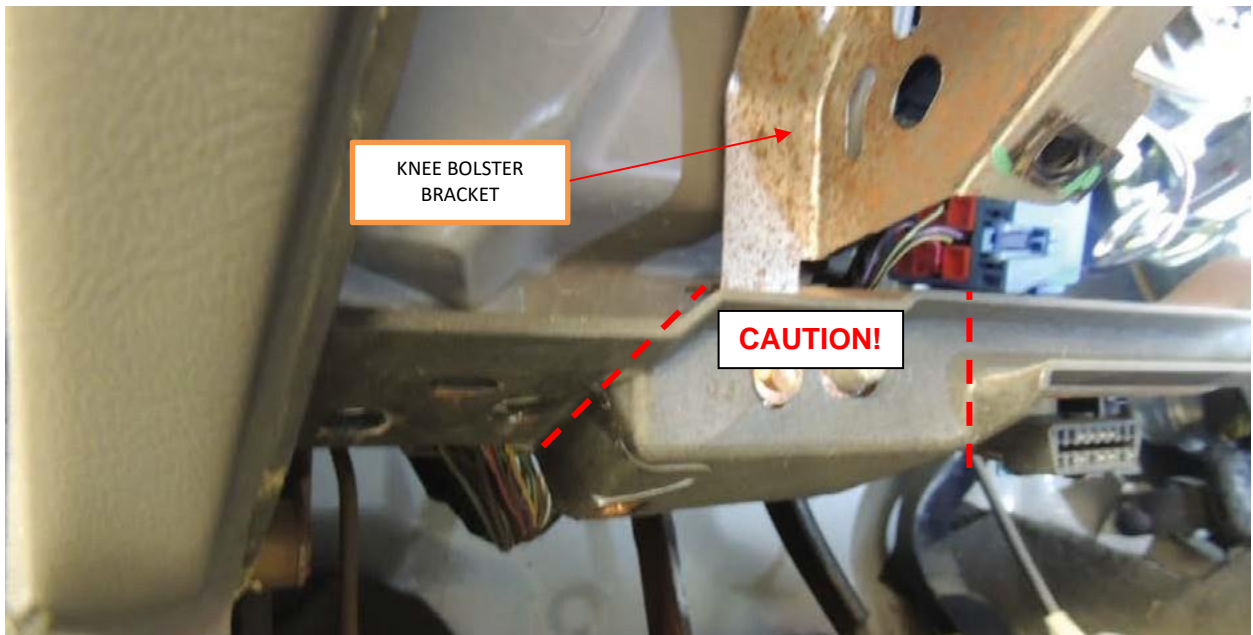

FIGURE 8
6. Using a small hand saw, cut the lower instrument panel substrate in the two areas indicated in Figure 8